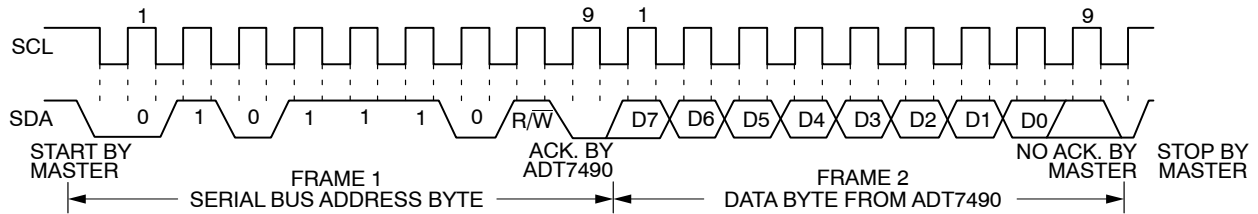

Figure 20. Reading Data from a Previously Selected Register
A read operation is then performed consisting of the serial bus address, $R/\overline{W}$ bit set to 1, followed by the data byte read from the data register. This is shown in Figure 20.
2. If the address pointer register is known to be already at the desired address, data can be read from the corresponding data register without first writing to the address pointer register, as shown in Figure 20.